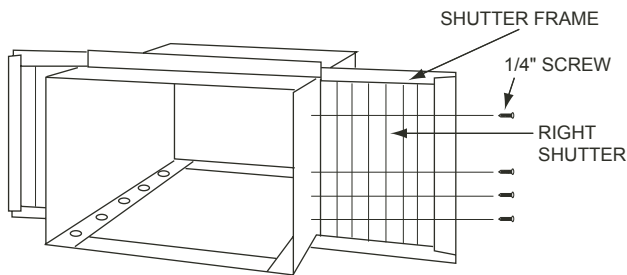

FIGURE 7 — SIDE SHUTTER INSTALLATION
9. Install the side shutters (provided). The side shutters are identified as right and left on each frame. Slide the top and bottom shutter frames into the top and bottom channels on the cabinet. Attach the shutters to the cabinet using four 1/4-in. screws (provided). See Fig. 7.